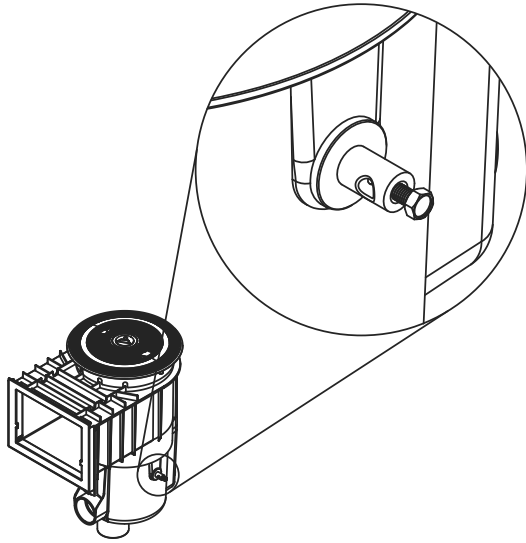

Figure 5
- Bonding can be performed by utilizing the integrated stainless steel bonding lug (optional upgrade) located on the outside of the QuikSkim Ultra (Figure 5). The bonding lug is molded into the body and connects to a corrosion resistant 316 stainless steel bonding plate located on the inside of the skimmer (Figure 6b). However, in the event that this plate should ever become corroded, it can easily be replaced by loosening the stainless steel locking nut (Figure 6a), removing the old bonding plate, adding a new bonding plate and securing the locking nut.